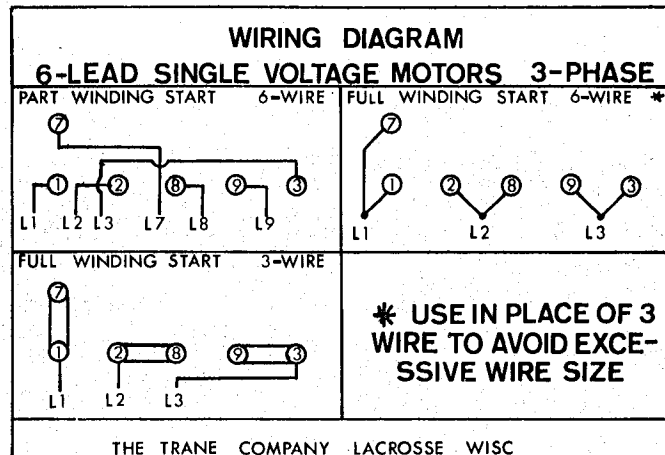

Figure 35
9. Install the junction box cover. Figure 35 illustrates 6 wire lead connections to the terminals.